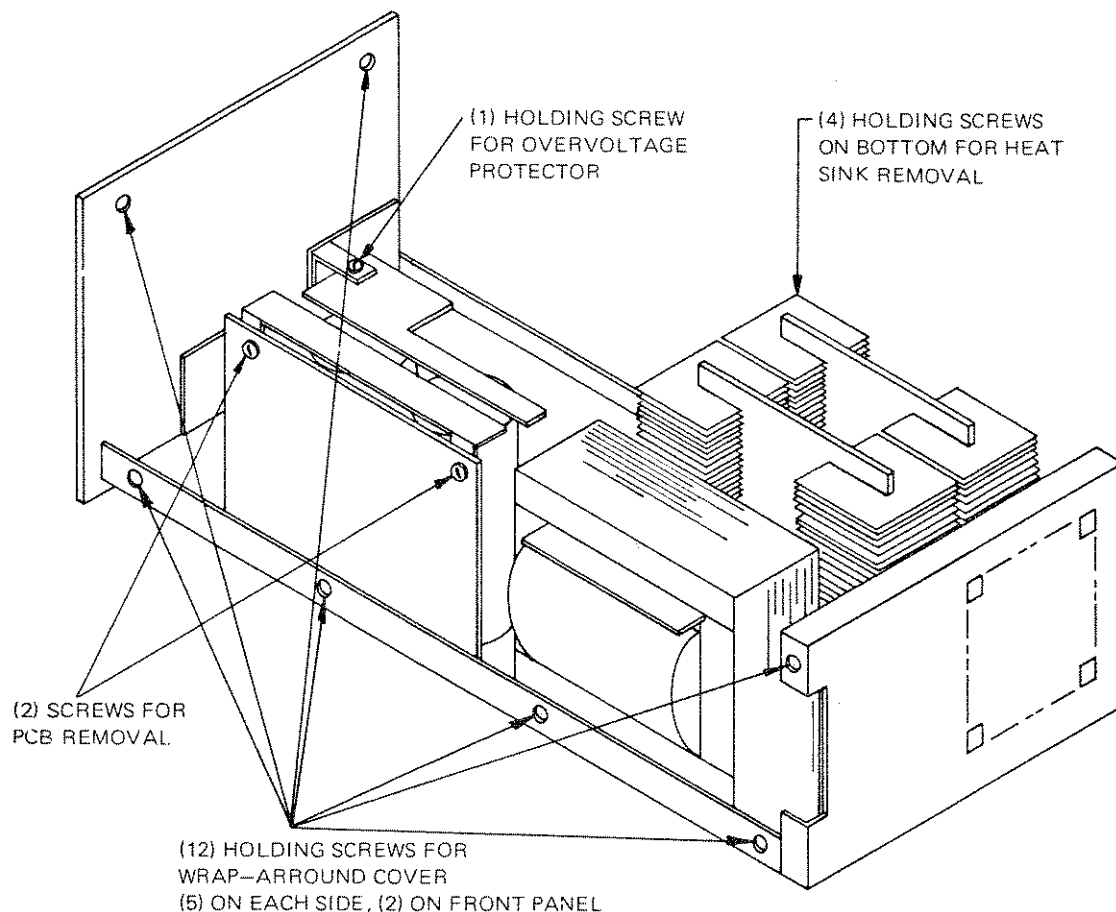

FIG. 5-1 DISASSEMBLY, JQE HALF-RACK MODELS
### 5-3 DISASSEMBLY (Refer to FIG. 5-1)
- a) COVER REMOVAL. The wrap-around cover may be taken off by loosening and removing its twelve (12) holding screws, five (5) on each side and two (2) on the front panel.
- b) CIRCUIT BOARD REMOVAL. The printed circuit board is mounted with two (2) screws, which are removed from the side. After removal of the four printed circuit board connectors, the board may be lifted from its slide-guide.
- c) HEAT SINK REMOVAL. The heat sink assembly is mounted with four (4) screws to the chassis bottom. After the screws are taken out, the wires may be removed by means of the "quick disconnect" terminals.
- d) OVERVOLTAGE PROTECTOR (A4) REMOVAL. (On Models with Suffix—"VP" only). Remove the holding screw as indicated (Refer to FIG. 5-1) and lift assembly out.